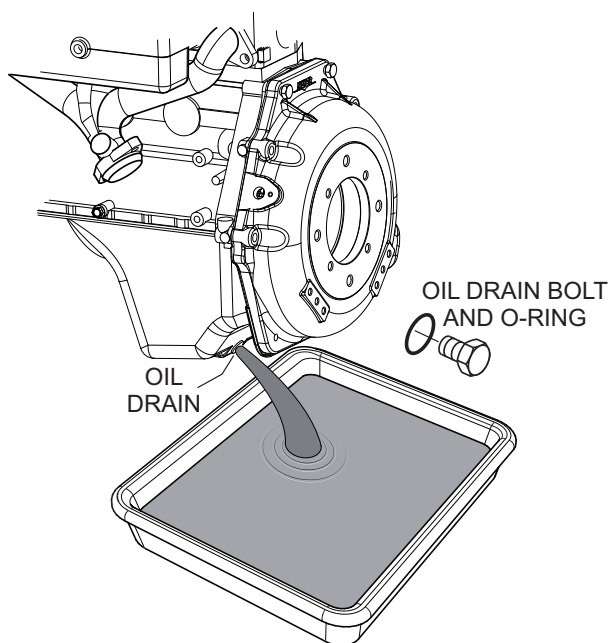

Figure 41. Oil Service Components
3. Remove the drain plug (Figure 41) to drain the oil.